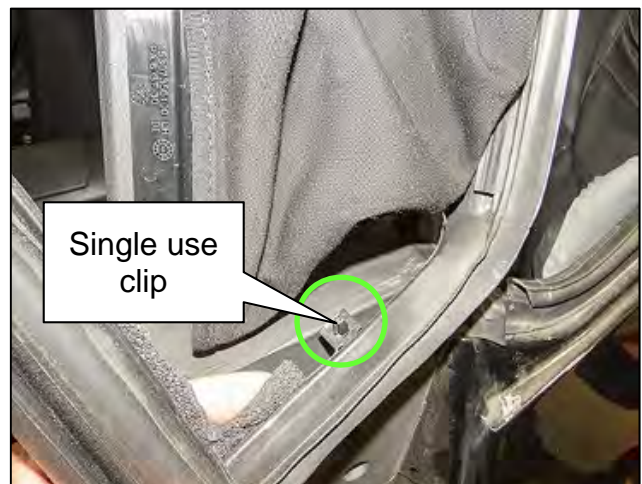

Figure 2
2. Unclip the single use clip (Figure 2).